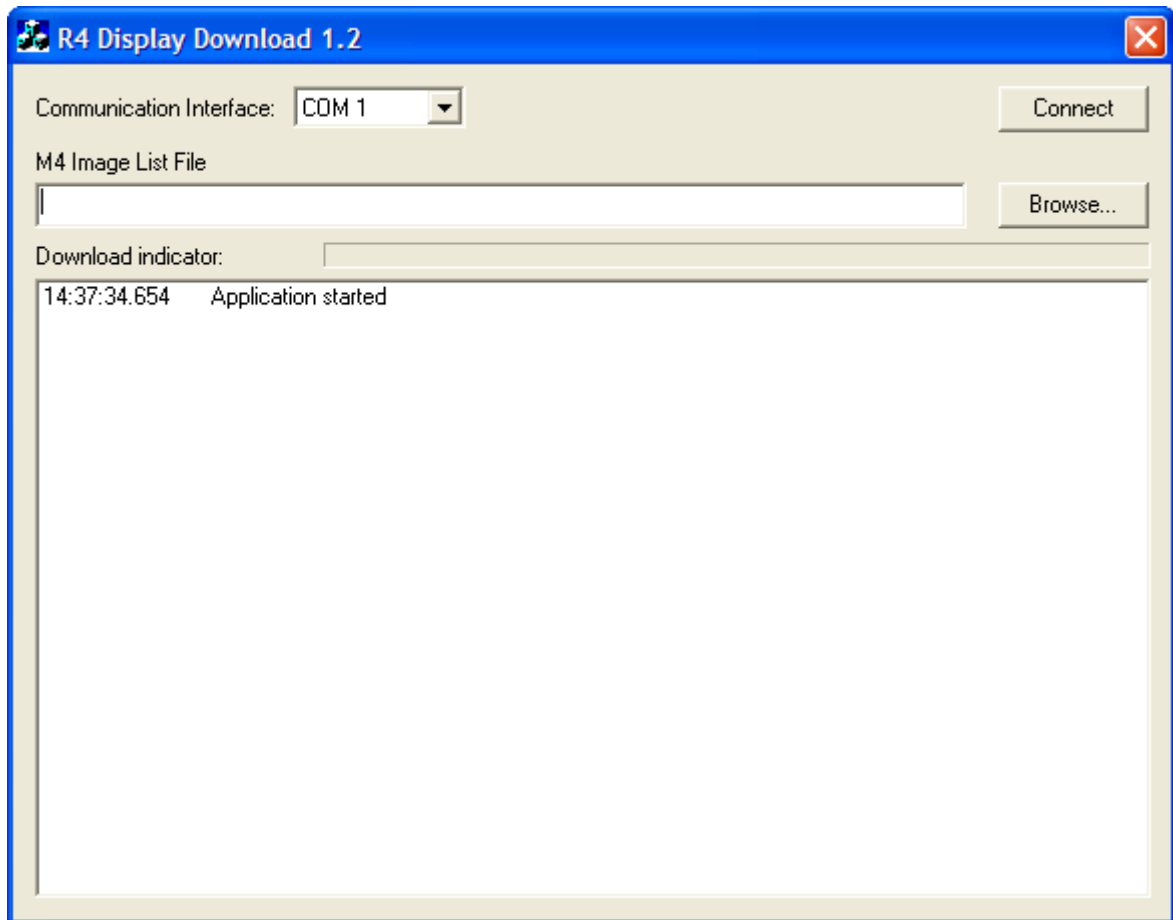

Figure 3 R4 Display Download View
4. In the list box in the first view (Figure 3) select the COM port number assigned to the USB to RS422 I/O Adapter.